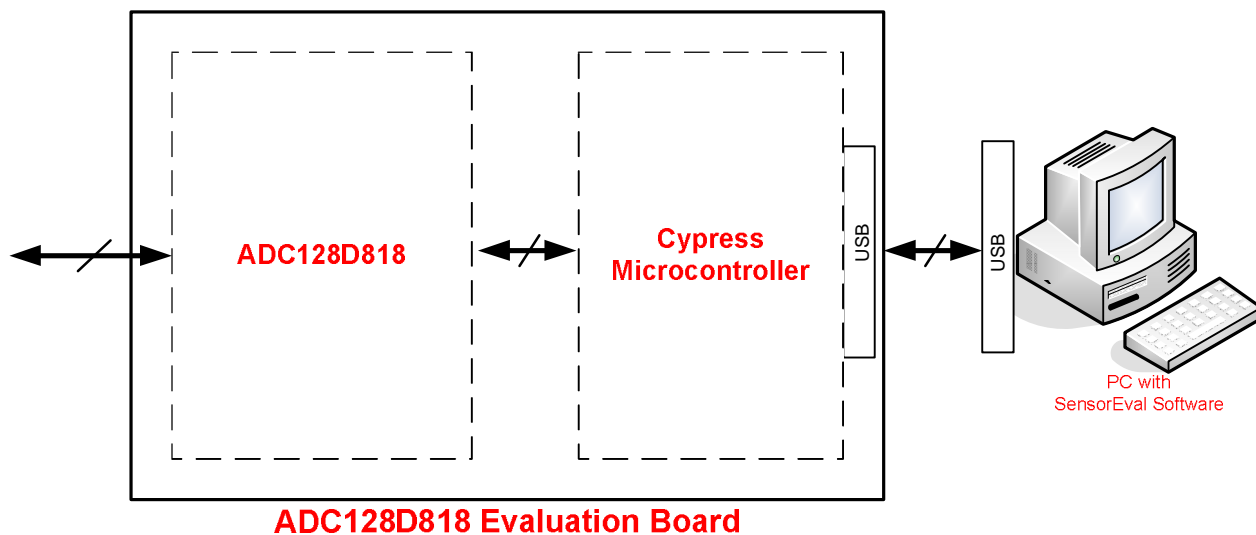

Figure 2 – Equipment Connection Diagram
3.2. Equipment Connection Diagram – figure 2 shows the connection diagram between the board and the PC.